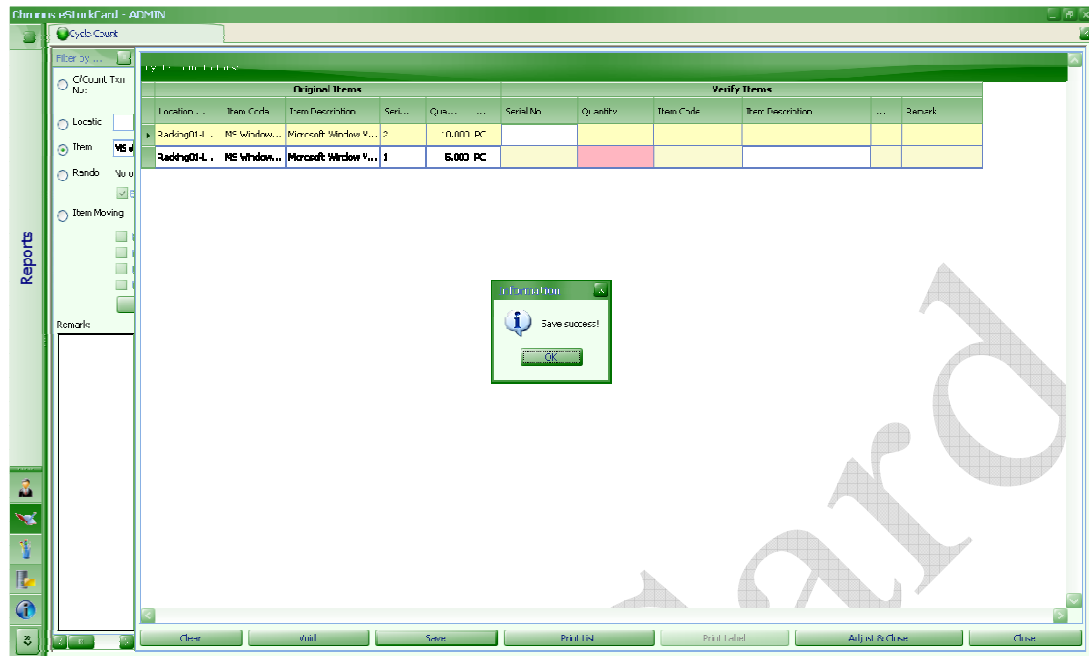

Fig. 56
Step 3 Clicks “Save”. A request of performing cycle count activity is initiated now with a transaction number assigned to this request has been generated “C/Count Txn = 1” (this is a system generated number) and the “status = Active” (Fig. 56)